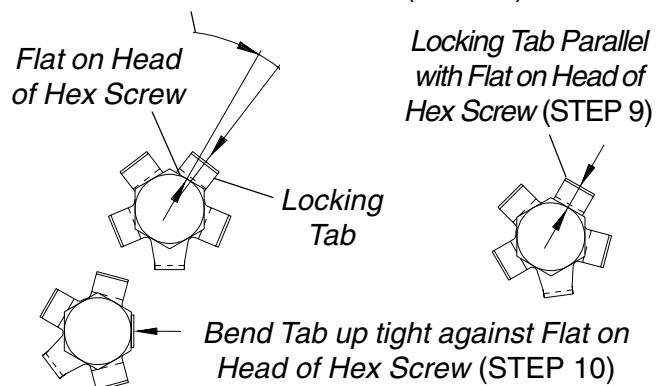

FIGURE 1 - REMOVING/INSTALLING 12-INCH DRIVE WHEELS
6. Examine the head of the hex screw and the locking tab washer. Make sure one (1) of the tabs on the locking tab washer is parallel with one (1) of the flats on the head of the hex screw.
7. If one (1) of the tabs on the locking tab washer is NOT parallel with one (1) of the flats on the head of the hex screw (FIGURE 1), **TIGHTEN** the hex screw until the closest flat and locking tab are parallel.
8. Bend the parallel tab of locking tab washer up tight against flat of the hex screw (FIGURE 1).